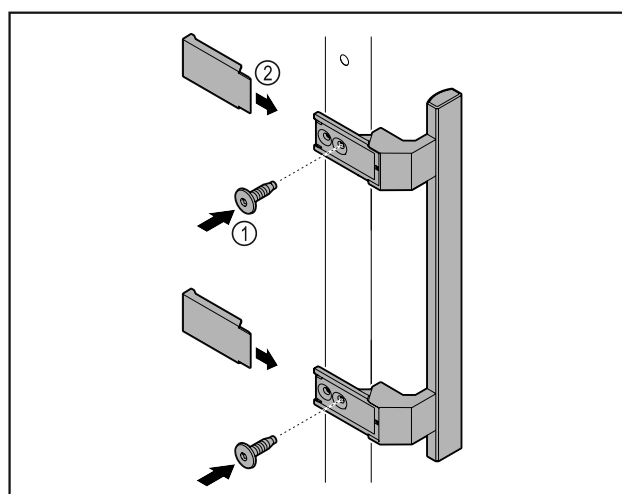

Fig. 7
- ▶ Attach handle from accessory kit to the door using supplied screws Fig. 7 (1).
- ▶ Put on cover Fig. 7 (2).